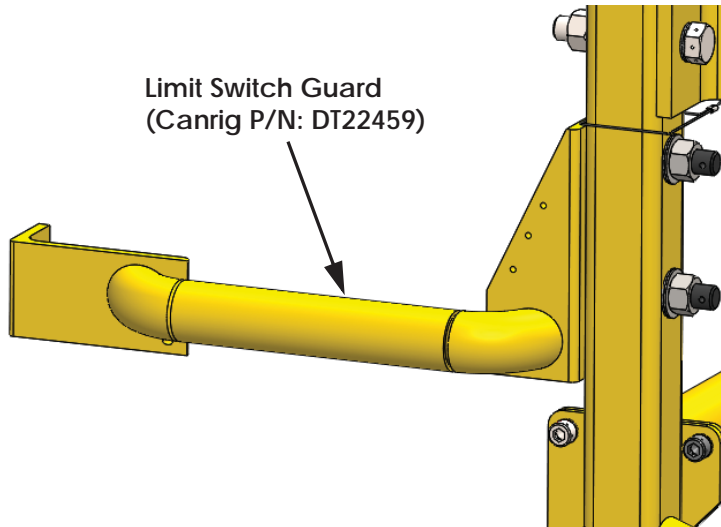

Figure 3: Limit switch guard (Canrig P/N: DT22459)
- 2a. Limit switch guard Canrig P/N: DT22459 is correctly installed (refer to Figure 3 on page 2).